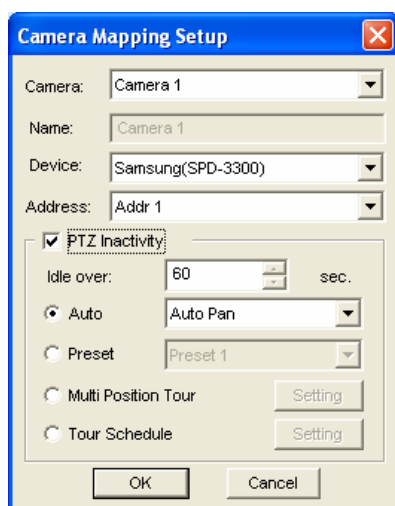

Figure 1-76 Camera Mapping Setup
1. In the Camera Mapping Setup dialog box (Figure 1-76), select **PTZ Inactivity**.
1. Select **Multi Position Tour** on the Camera Mapping Setup dialog box (Figure 1-76), and click the **Setting** button. This dialog box appears.
1. Select **Tour Schedule** on the Camera Mapping Setup dialog box (Figure 1-76), and click the **Setting** button. This dialog box appears.
Note: It is required to set more than one span so that a specified camera behavior will only run in the defined time frame. Otherwise, you can select the **Auto**, **Preset** or **Multi Position Tour** option (see Figure 1-76) to configure the idle protection.